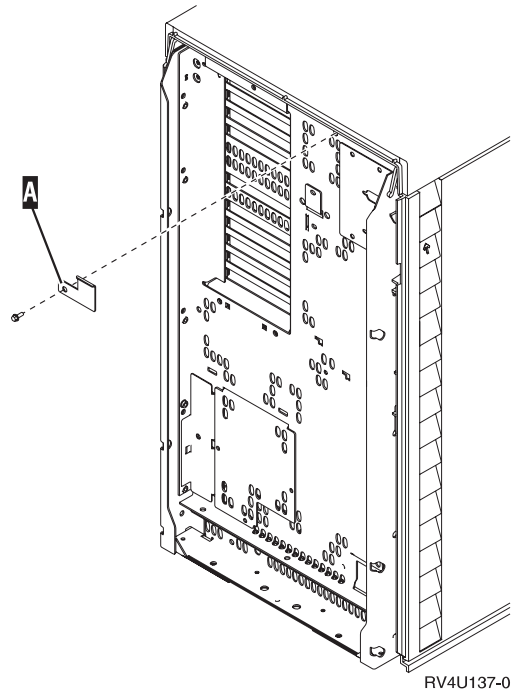

Figure 28. Removing the top cover lock
- ___ 4. Remove the system unit top cover (Figure 28 on page 29) by doing the following: